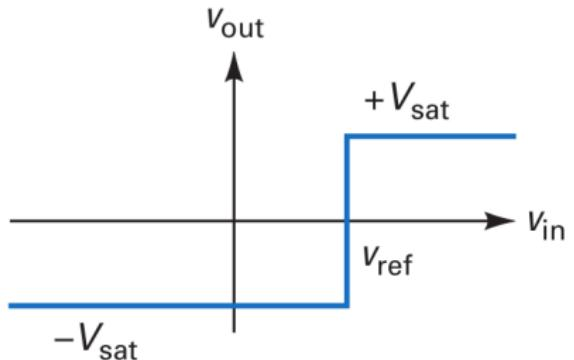

Figure 16: Positive input/output response
- ▶ Figure 16 shows the transfer characteristic (input/output response).